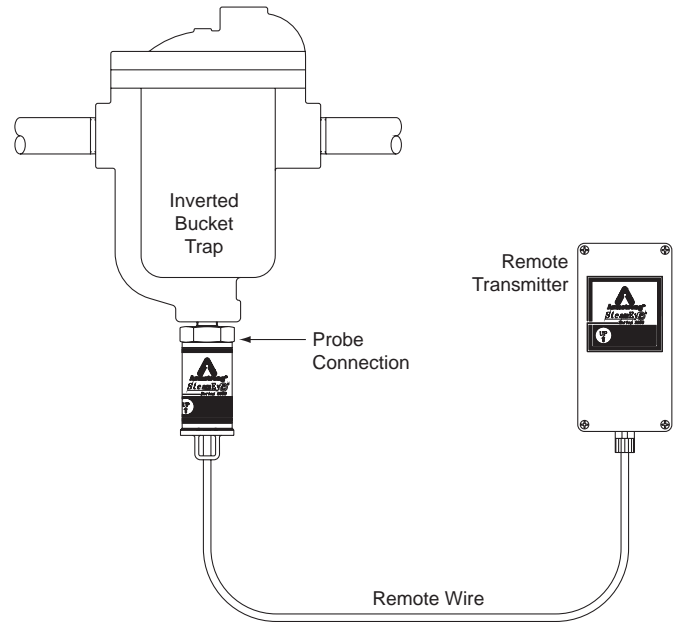

Figure 3. Model RFC 3300R Installation
• See Figure 3 for proper pressure switch wiring.